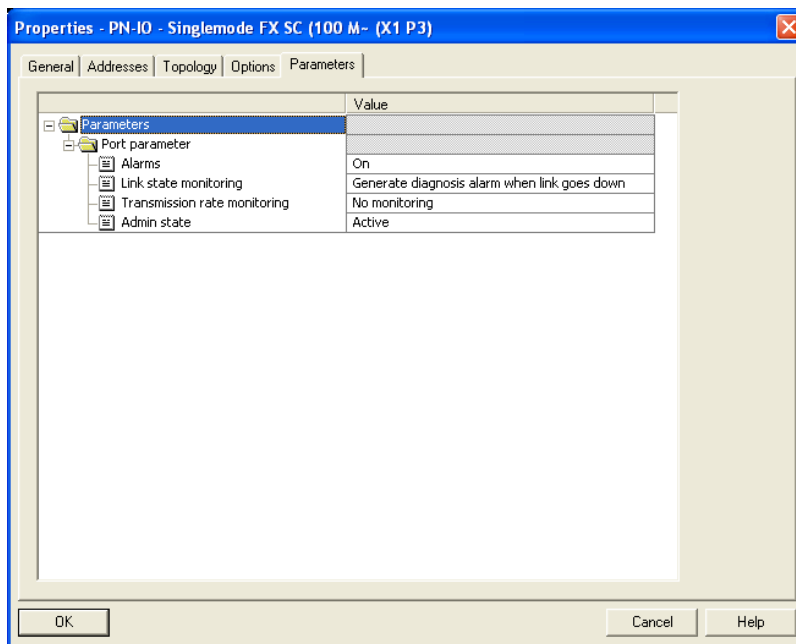

Figure 17: Port properties
- Select the desired alarms and close the window (see figure 17).